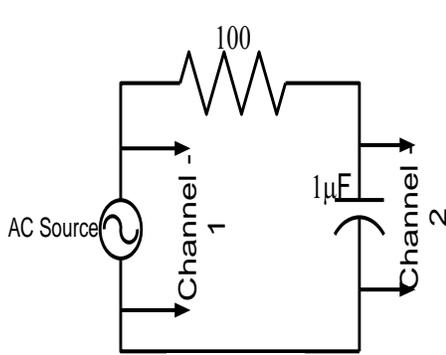

Figure-2
1. Construct the circuit as shown in the figure-2. Connect channel 1 of the oscilloscope across function generator and channel 2 of the oscilloscope across R.